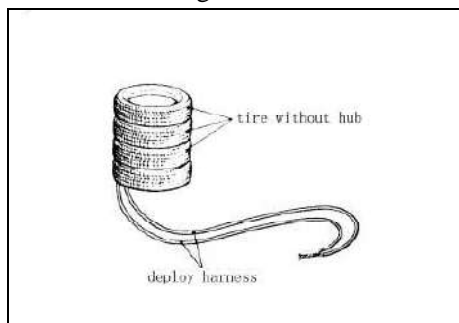

Fig 19-50
7) Place three old tyres without wheels on the tyre secured with the driver's air bag module.(See fig 19-50)